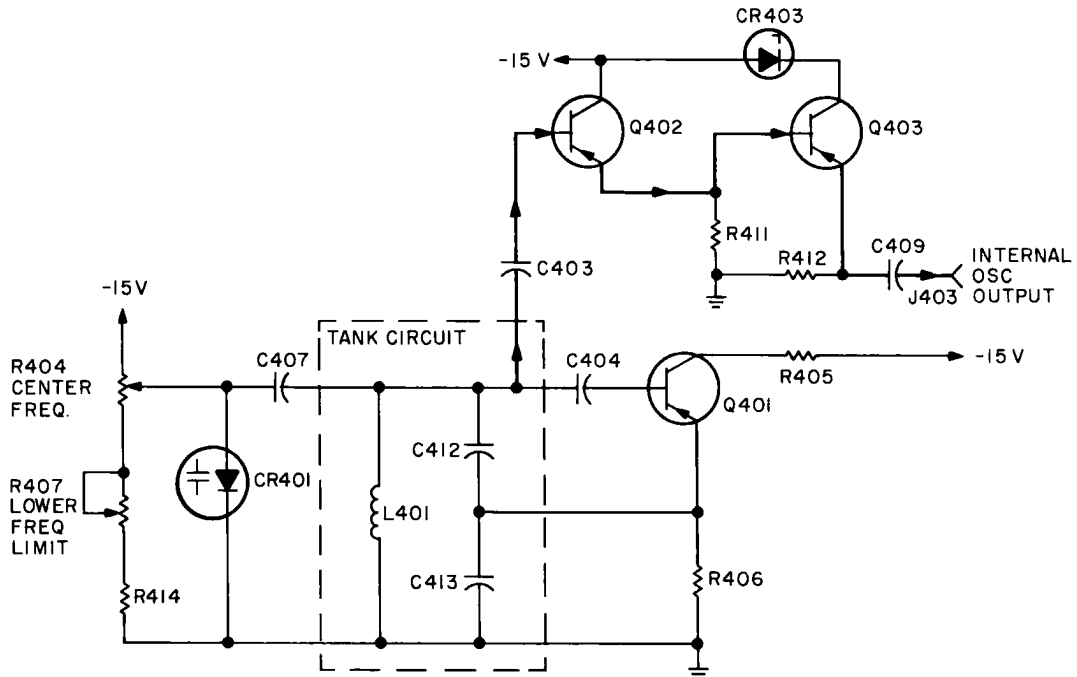
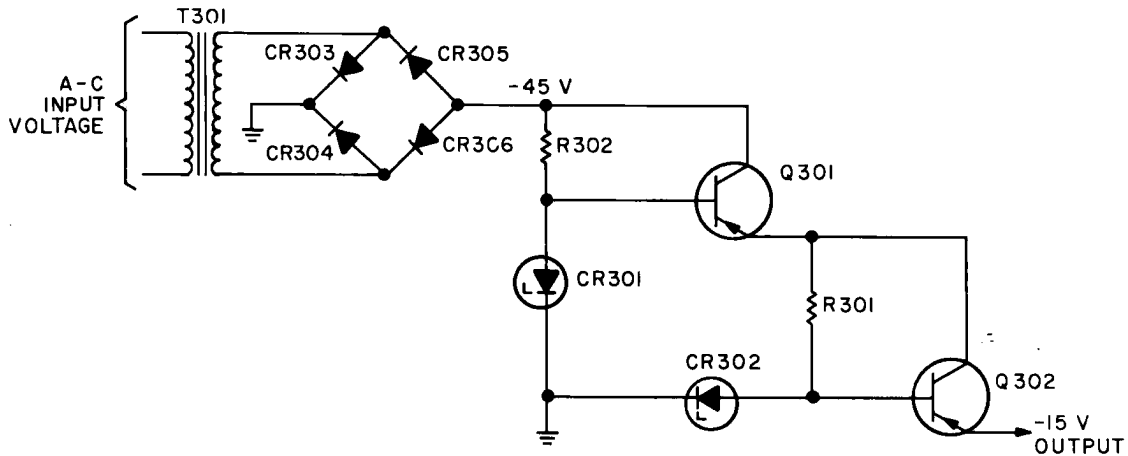

Figure 4-4. Local Oscillator, Simplified Schematic Diagram
Figure 4-5. Power Supply, Simplified Schematic Diagram
c. LOCAL OSCILLATOR. - The local oscillator, figure 4-4, is a modified Hartley, called a Colpitts oscillator. The frequency of oscillation is controlled by voltage divider R404, R407, R414 and voltage-controlled capacitor CR401.
(1) The adjustment of CENTER FREQUENCY control R404 determines the voltage across CR401. This, in turn, determines the capacitance of CR401. Because CR401 is in parallel with the oscillator tank circuit, its capacitance will affect the frequency at which the tank circuit oscillates. In summary, adjusting CENTER FREQUENCY control R404 changes the voltage across CR101, which changes its capacitance causing a shift in oscillator frequency. The oscillator frequency can be adjusted between 2985 kc and 3000 kc.
(2) The oscillator output is applied through capacitor C403 and two emitter followers (Q402 and Q403) to INTERNAL OSC. OUTPUT jack J403. Zener diode CR403 maintains a constant voltage at the collector of Q403. Hence it stabilizes the output voltage.
d. POWER SUPPLY. - The full-wave rectifier in the power supply (figure 4-5) develops -45 volts dc at the collector of control transistor Q301. Zener diode CR301 maintains the base of Q301 at a constant -30 volts dc regardless of fluctuations in the